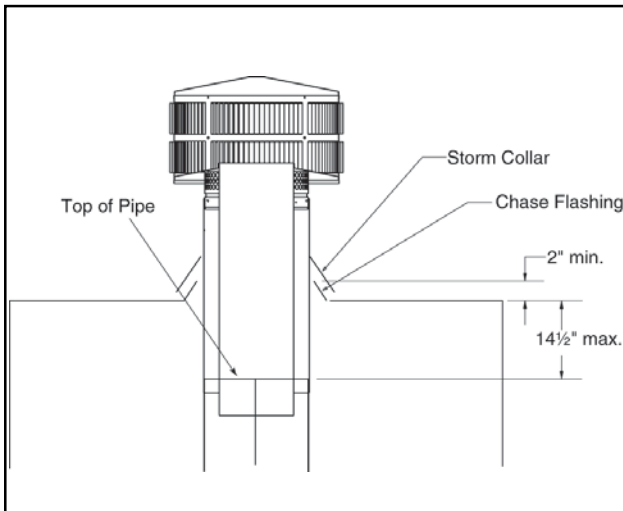

Figure 15 - Installing a TR11T Round Telescoping Termination Cap
- b. For installations utilizing a TR11T telescoping round termination cap, the uppermost chimney section must be below the top of the chase top, but not more than 14½" below the top of the chase top flashing collar. See Figure 15.